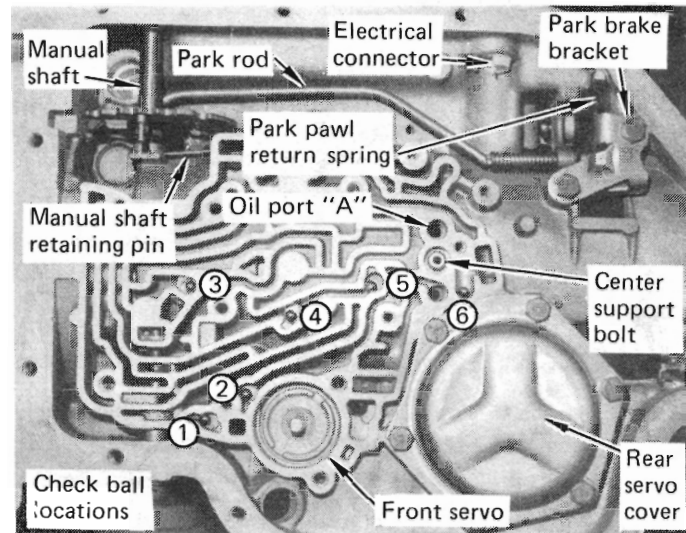
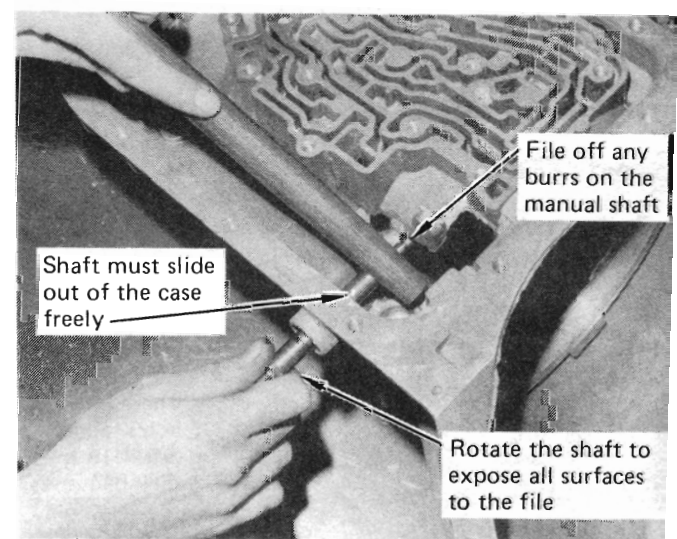

FIGURE 7
FIGURE 15
STEP 5. Remove two bolts which hold the detent solenoid in place. Set the detent solenoid with the valve body. Discard the solenoid gasket. NOTE: Square can solenoids do not have a gasket. Remove and discard both valve body gaskets and separator plate. Remove six 1/4" steel balls from the case and set them with the valve body. (See Fig. 7)
STEP 6. Remove front servo assembly by grasping front servo piston pin and pulling entire assembly from case. (See Fig. 7) You will remove: Pin, piston, washer or C-clip, spring retainer and spring. (See Fig. 52 & 53) Put these parts in the oil pan so they won't be lost. Remove and discard piston seal ring if it is metal. Do not remove teflon seal ring.
STEP 7. Remove six rear servo cover bolts. (See Fig. 7) Remove servo cover. Remove servo by pulling straight out. If the servo sticks tap on the side with a screwdriver handle
STEP 11. Remove center support bolt. (See Fig. 7) Use a 3/8" 12-point socket. Put bolt in oil pan. Also remove electrical connector. Remove and discard O-ring. Put connector in oil pan.
STEP 18. Remove park brake bracket bolts and bracket. (See Fig. 7) Remove the park pawl return spring and bracket. Remove park rod. Remove manual shaft retaining pin (nail). Loosen inside detent lever nut and slide manual shaft out of case. Note: Be sure to file off any burrs that may be on the manual shaft before trying to remove it. If you scratch the bore it will leak. (See Fig. 15) The shaft should slide out freely. If the manual shaft has O-rings on it, discard them. Put linkage parts in the oil pan.